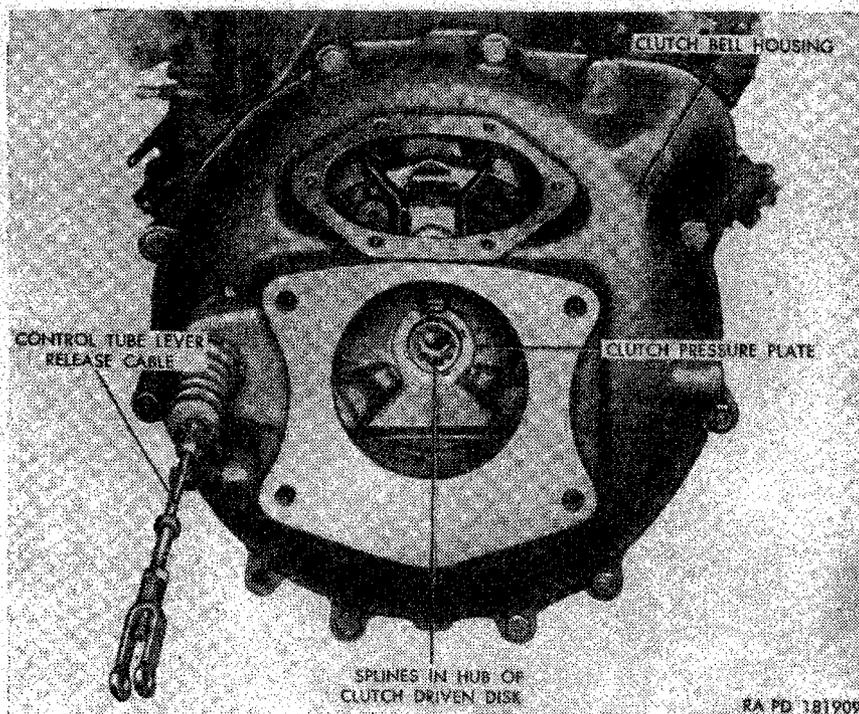

Figure 125. Clutch bell housing—rear view—transmission removed.
d. Align the input shaft splines with the clutch driven disk (fig. 125) hub splines and insert the input shaft through the disk hub until it seats in the engine flywheel clutch pilot bearing. Secure the